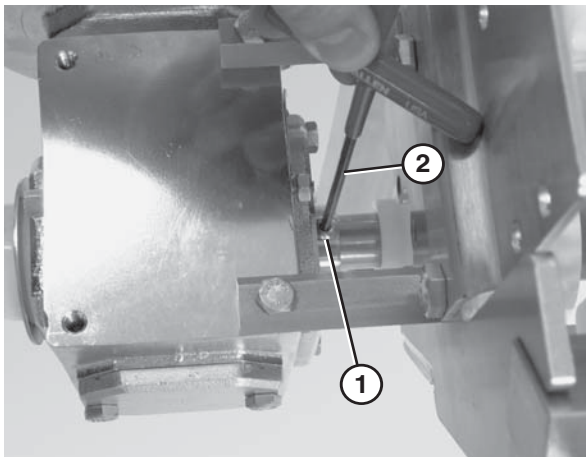

Figure 52
1. Loosen the fasteners (**Figure 52, item 1**) that connect the gearmotor to the drive spindle using a hex wrench (**Figure 52, item 2**).